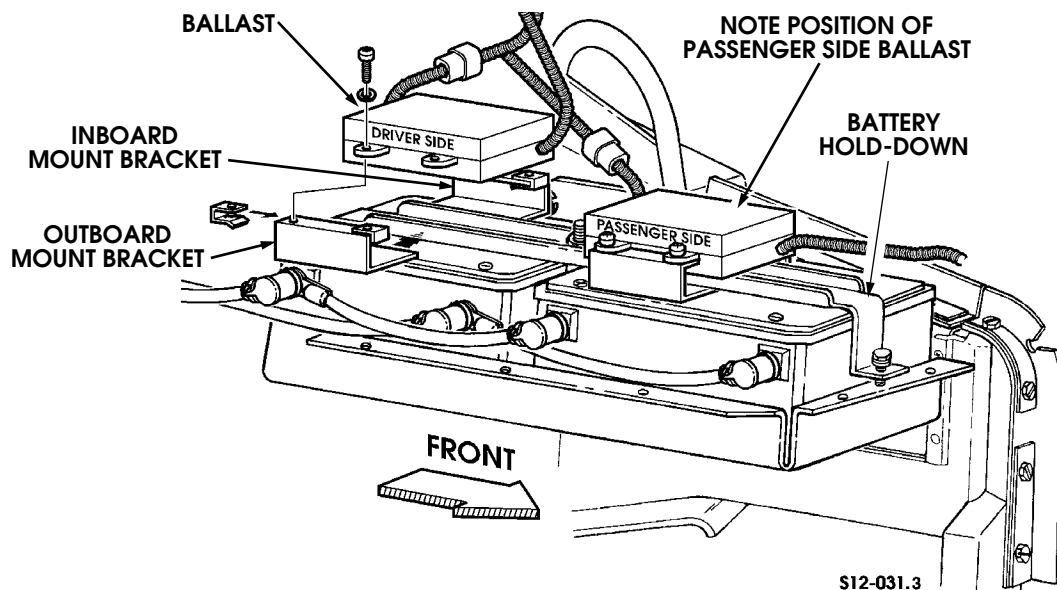

Figure 13-104: Ballast Mounting Point
2. The ballasts mount above the vehicles batteries. Loosen the battery hold-down hardware, and slide two ballast mounting brackets between the batteries and the battery hold-down on the inboard side and two on the outboard side (Figure 13-104). The ballast marked “*passenger*” mounts forward of, and close to, the center battery hold-down stud with the long wire lead toward the front of the vehicle. This mounting position is important to maintain good hood to ballast clearance. Secure the ballasts to the brackets with the screws and washers provided. Tighten the battery hold-down hardware.